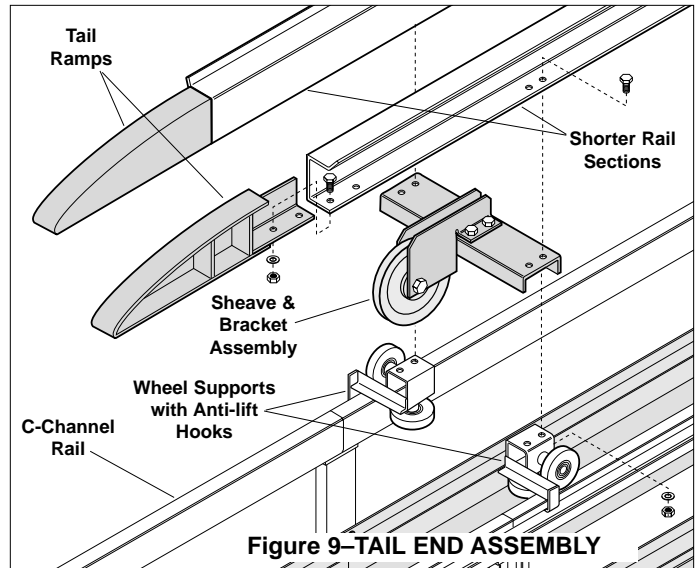

Figure 9-TAIL END ASSEMBLY
8) Install ramps onto ends of rail (Fig. 9).